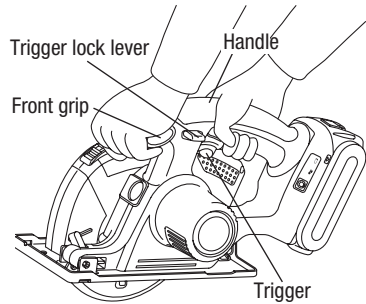

Fig. 5
1. Hold the tool with both hands (Fig. 5). Do not attempt to remove cut material when blade is moving.
- Always hold the handle with one hand and the front grip with the other (Fig. 5). Maintain a firm grip and depress the switch fully.